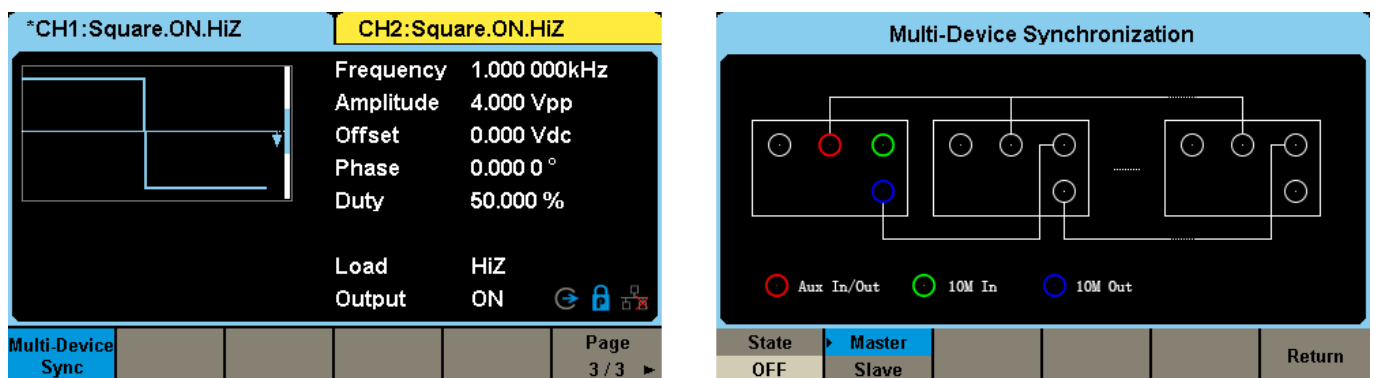

Figure 5. Multi-Device Synchronization Screen
1) Press Utility, go to Page 3/3, then press the soft key under screen to select **Multi-Device Sync**. The menu will enter the Multi-Device Synchronization screen, shown in Figure 5.